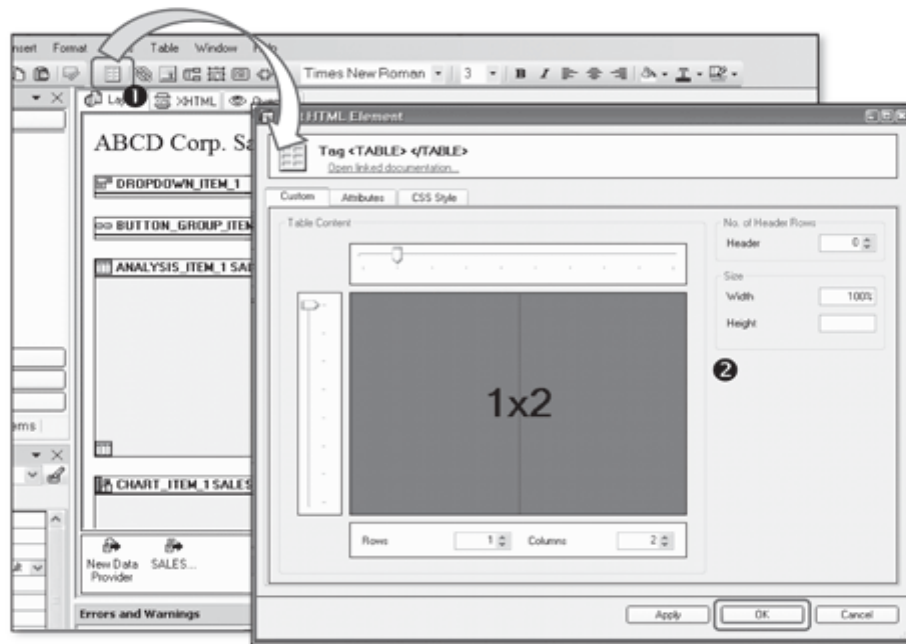

Figure 11.15 Insert Table
To insert a table in the web template, first position the cursor where you want to insert it, and then click on the Insert Table button on the toolbar as shown in ❶ of Figure 11.15.